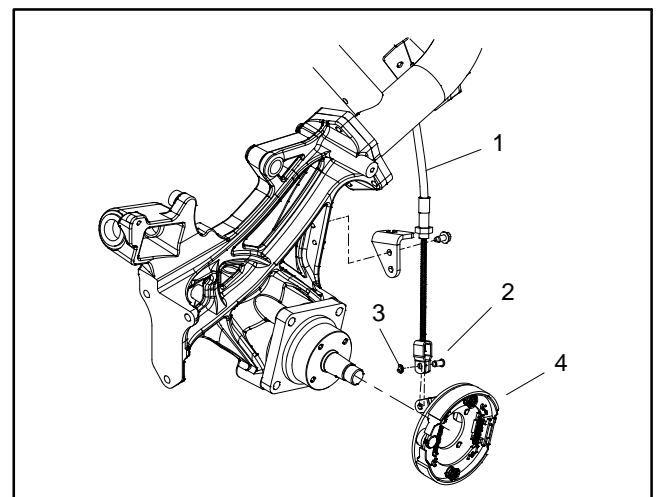

Figure 52
2. Loosen, but do not remove, lug nuts (item 9) and lock nut (item 7). Loosen lock nut at least two (2) turns.
5. Remove e-ring and clevis pin that secure brake cable clevis to brake actuator lever (Fig. 52). Position brake cable clevis away from actuator lever.
6. Make sure that lock nut on wheel motor shaft is loosened at least two (2) turns. Use hub puller (see Special Tools in this chapter) to loosen brake drum assembly from wheel motor.
7. Remove lock nut and brake drum assembly. Locate and retrieve woodruff key (item 12).
8. Remove four (4) cap screws that secure brake assembly to wheel motor. Remove brake assembly. If brake service is required, see Brake Service in the Service and Repairs section of Chapter 7 – Chassis.
14. Support wheel motor to prevent it from falling. Remove four (4) cap screws that secure wheel motor and brake lever tab (item 10) to frame. Remove brake lever tab and wheel motor from machine.
1. Position hydraulic wheel motor to the frame with motor ports facing up. Place brake lever tab (item 10) to frame with slot toward rear of machine. Secure motor and brake lever tab to the frame with four (4) cap screws.
5. Position brake assembly to wheel motor and align brake actuator lever with slot in brake lever tab. Secure brake assembly to wheel motor with four (4) cap screws.
8. Secure brake cable clevis to brake actuator lever with clevis pin and e-ring (Fig. 52).
9. Install front wheel to machine and secure with four (4) lug nuts.